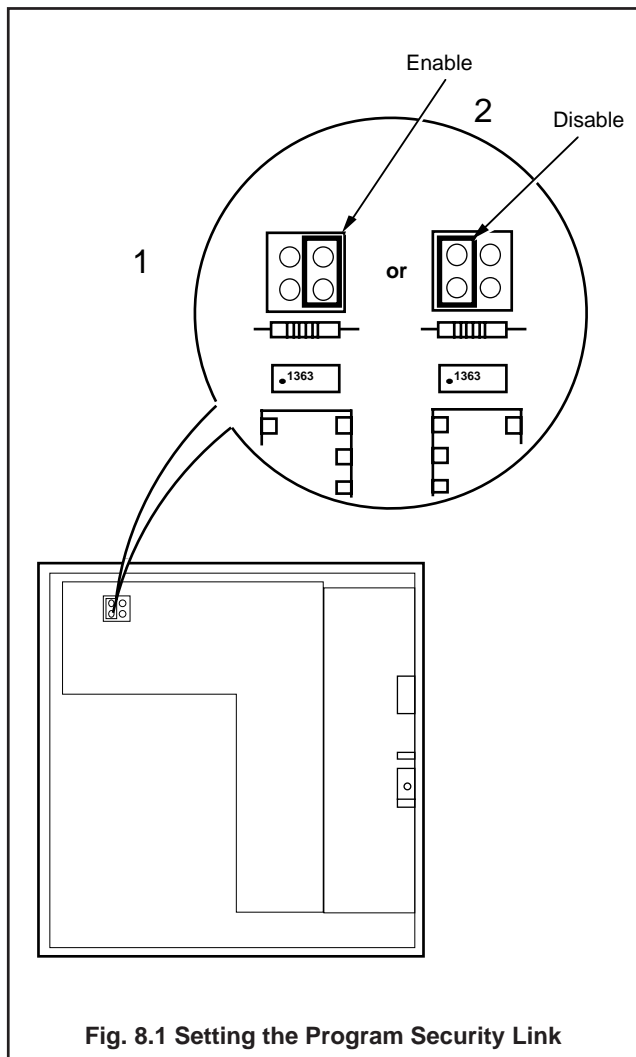

Fig. 8.1 Setting the Program Security Link
8.2 Program Security Link – Fig. 8.1
With reference to Fig. 8.1: